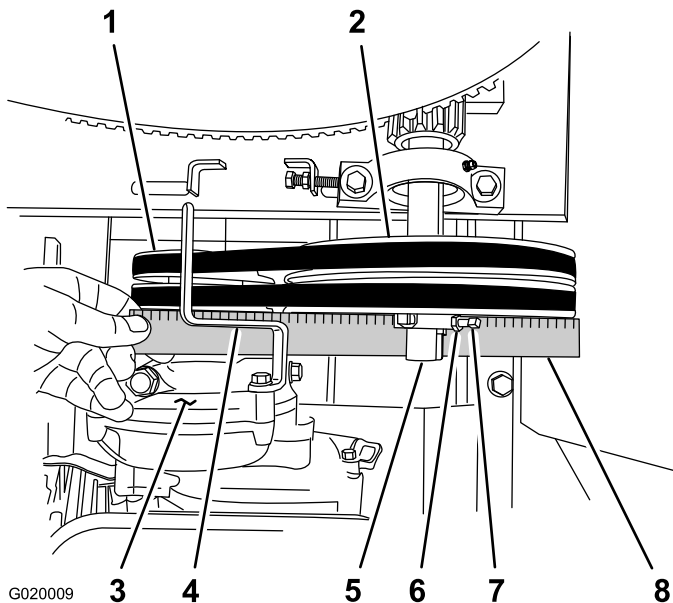

Figure 58
- D. Align a straightedge across the engine pulley and the idler pulley (Figure 58).
- E. If needed, pivot the engine on the engine deck until the engine pulley and the idler pulley are aligned to the straightedge (Figure 58).